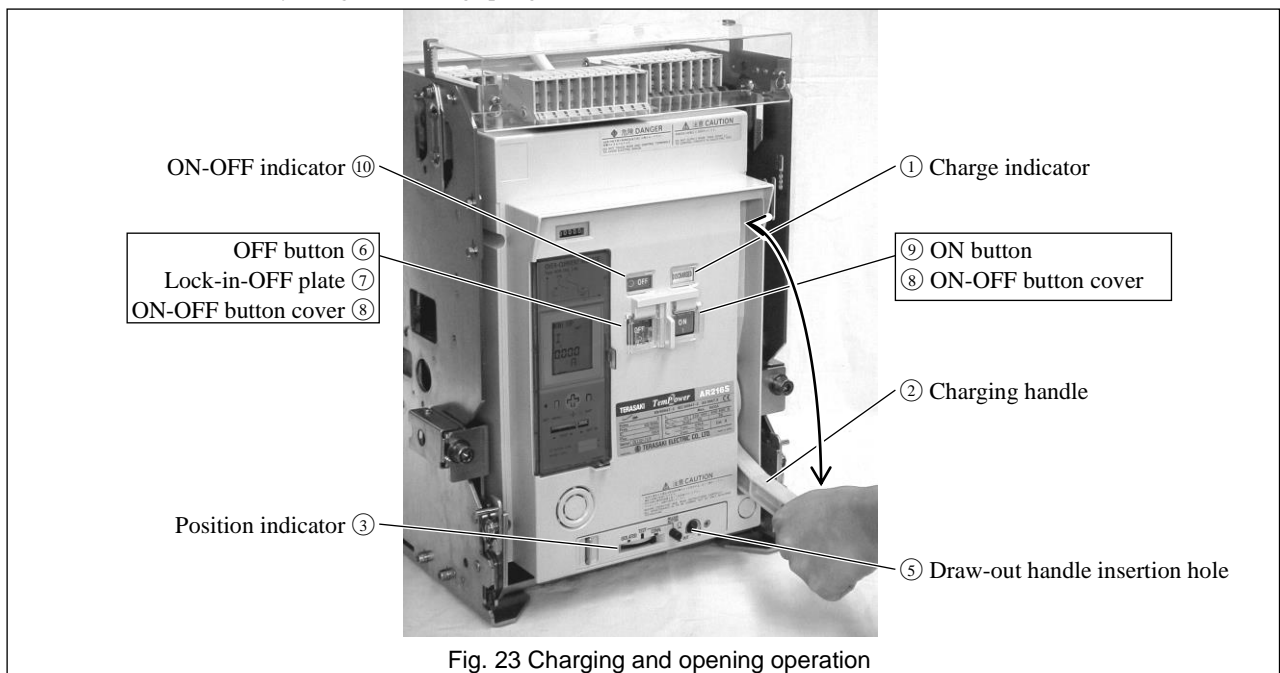

Fig. 23 Charging and opening operation
Pump the charging handle (Fig. 23 ②) until the charge indicator (Fig. 23 ①) shows “CHARGED” Pumping the handle with the full stroke 10 - 13 times will fully charge the closing springs.
When the charge indicator (Fig. 23 ①) changes to “DISCHARGED” while the specified operation voltage is applied to the control circuit terminals ② and ②, the charging motor is activated to start charging the closing springs. Upon completion of the charging operation, the charge indicator shows “CHARGED” and the charging motor is automatically deactivated. The time required for the motor charging operation depends on the operation voltage or the ACB types, but does not exceed 10 seconds.
- 1) The charge indicator (Fig. 23 ①) shows "CHARGED".
- 2) The position indicator (Fig. 23 ③) shows "CONN.", "TEST" or "ISOLATED" (a halfway position not permitted).
- 3) The draw-out handle is not inserted in the draw-out handle insertion hole(Fig. 23 ⑤) .
- 4) The OFF button (Fig. 23 ⑥) is not locked with the lock-in-OFF plate (Fig. 23 ⑦).
Open the ON-OFF button cover (Fig. 23 ⑧) and press the ON button (Fig. 23 ⑨). The ACB will be closed with a sound. The ON-OFF indicator (Fig. 23 ⑩) shows "ON" and the charge indicator (Fig. 23 ①) shows "DISCHARGED".
Press the ON switch shown in Fig. 17,19. The latch release coil (LRC) (Fig. 17,19) will be excited and the ACB is closed with a sound. The ON-OFF indicator (Fig. 23 ⑩) shows "ON", the charge indicator (Fig. 23 ①) shows "DISCHARGED", and the charging motor starts charging the closing springs.
Open the ON-OFF button cover (Fig. 23 ⑧) and press the OFF button (Fig. 23 ⑬). The ACB will trip open with a sound. The ON-OFF indicator (Fig. 23 ⑩) shows "OFF".
Press the OFF switch shown in Fig. 17,19. The shunt trip device (SHT) or the fixed type undervoltage trip device (Fig. 17,19) will be excited so that the ACB trips open with a sound. The ON-OFF indicator (Fig. 23 ⑩) shows "OFF".